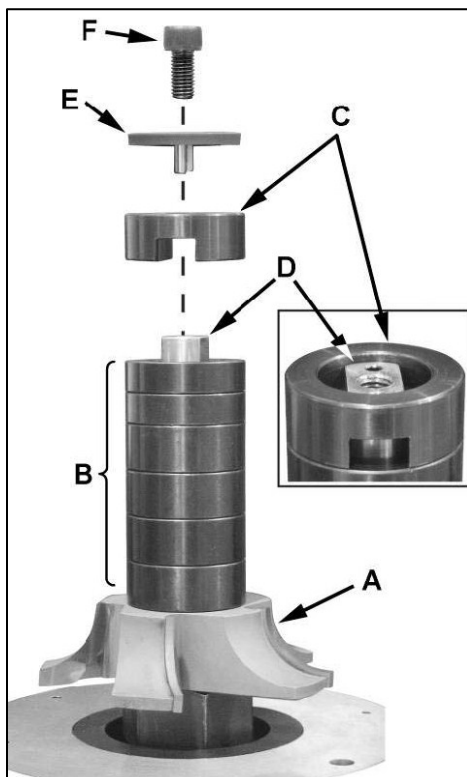
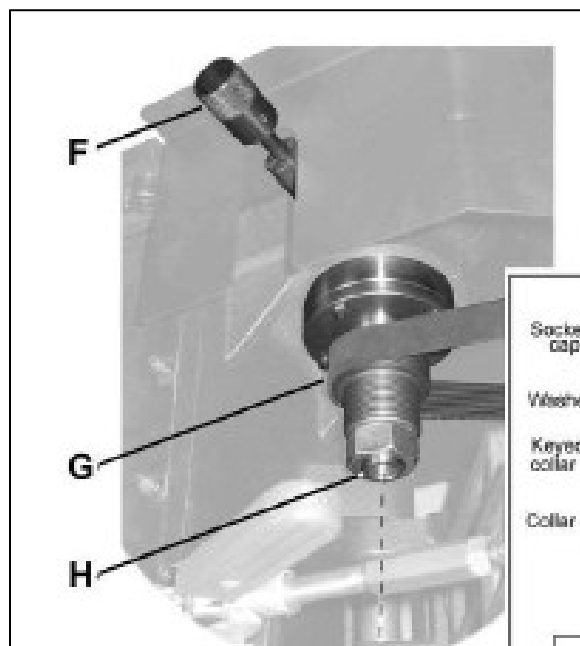

Figure 4 - Cutter Installation
Figure 5 - Spindle Lock and Speed Change Pulleys
Cutter Installation. When installing, removing, or changing the cutter(s) the machine must be Locked Out following the Club Lockout Procedure. The cutter is attached to the spindle with an 8mm hex head cap screw (F) (refer to Figure 4). In order to loosen or tighten this screw, the spindle must be locked so that it can not rotate. The spindle lock (F) is located inside the base, towards the top of the cabinet (refer to Figure 5). To lock the spindle, pull the Spindle Lock
Add spacers as needed so that the top of the Keyed Spacer (C), when installed, is slightly above the top of the spindle. The spacers are of differing heights and if selected properly, this distance can be achieved. This will ensure sufficient pressure to hold the cutter in place when the 8mm hex head bolt (F in figure 4) is tightened. Install the pronged washer (E) so the prong is projecting down into the space between the keyed collar and the spindle. Install and tighten the 8mm hex head bolt (F). Ensure that the cutter is secured to the spindle by trying to rotate the spacers. If they rotate, the spacers must be readjusted. When finished with the installation, unlock the spindle by pulling the Spindle Lock Knob (F in Figure 5) out, rotate it back to the center position, and release it. Rotate the spindle several revolutions to verify that the spindle is unlocked. If no further adjustments are to be made, remove the Lockout lock and restore power to the machine following the Clubs Lockout Procedure.